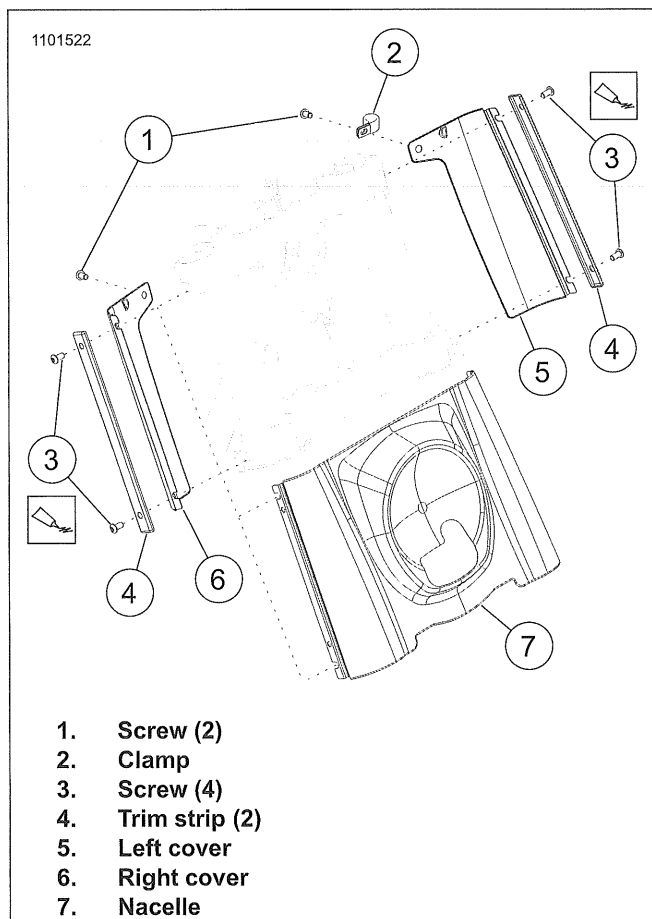
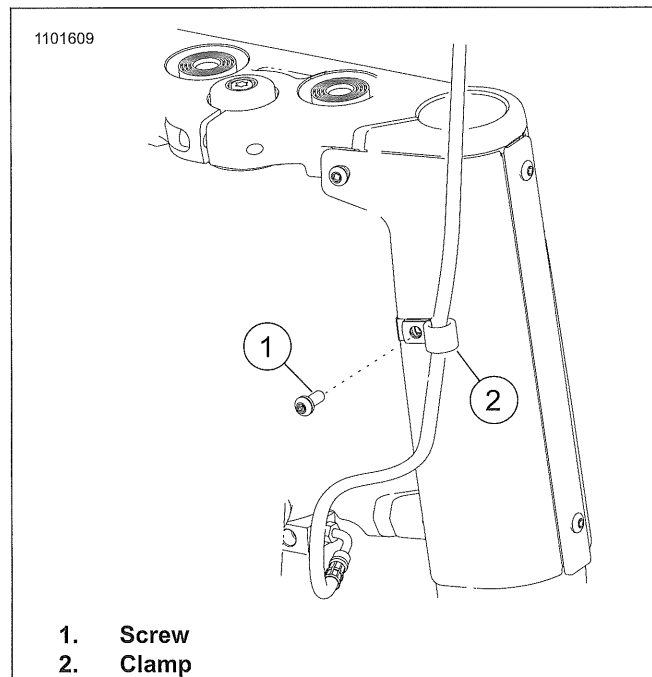

Figure 3-103. Standard Round Nacelle
Figure 3-104. Standard Round Rear View
1. See Figure 3-103 and Figure 3-104. Remove screws (1) and clamps (2).
2. See Figure 3-103. Remove screws (3).
3. Remove trim cover (4).
5. Remove nacelle (7).
2. See Figure 3-103. Install nacelle (7), right cover (6) and trim strip (2).
3. Apply threadlocker and install screws (3). Tighten.
6. See Figure 3-103 and Figure 3-104. Install clamps (2) and screws (1). Tighten.